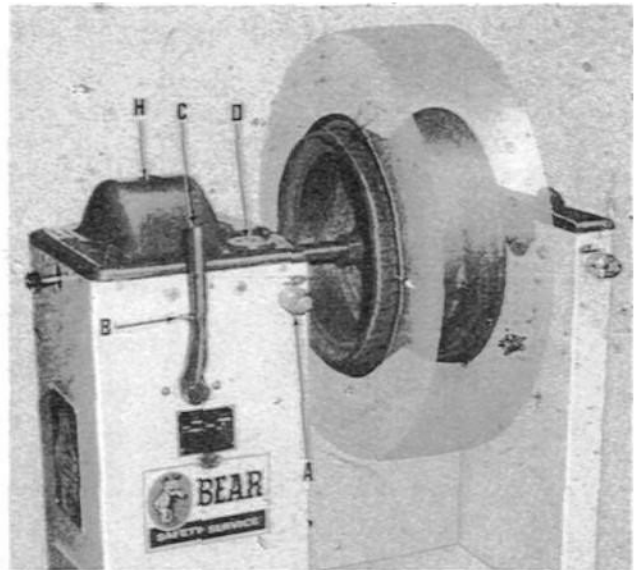

Fig. 11
1. Engage drive shaft; turn on balancer motor and spin the wheel at low speed with handle in vertical position, C Fig. 11.
2. Use indicator dial on side that has the greater flexing motion, A Fig. 11, and adjust dial in, carefully, until number is flashed on spark dial, D Fig. 11. Note number and turn switch, B Fig. 11, to off position; then stop wheel with brake. *Do not disengage drive shaft.*
3. Rotate wheel until flasher number shows through window, H Fig. 11.